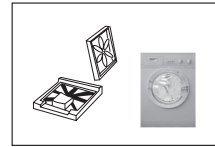

Fig 1
- As shown in figure1 remove all the packing materials (including the foam base). Upon opening of the package, water drops may be seen on the plastic bag and the porthole. This is normal phenomenon resulting from water test in the factory.